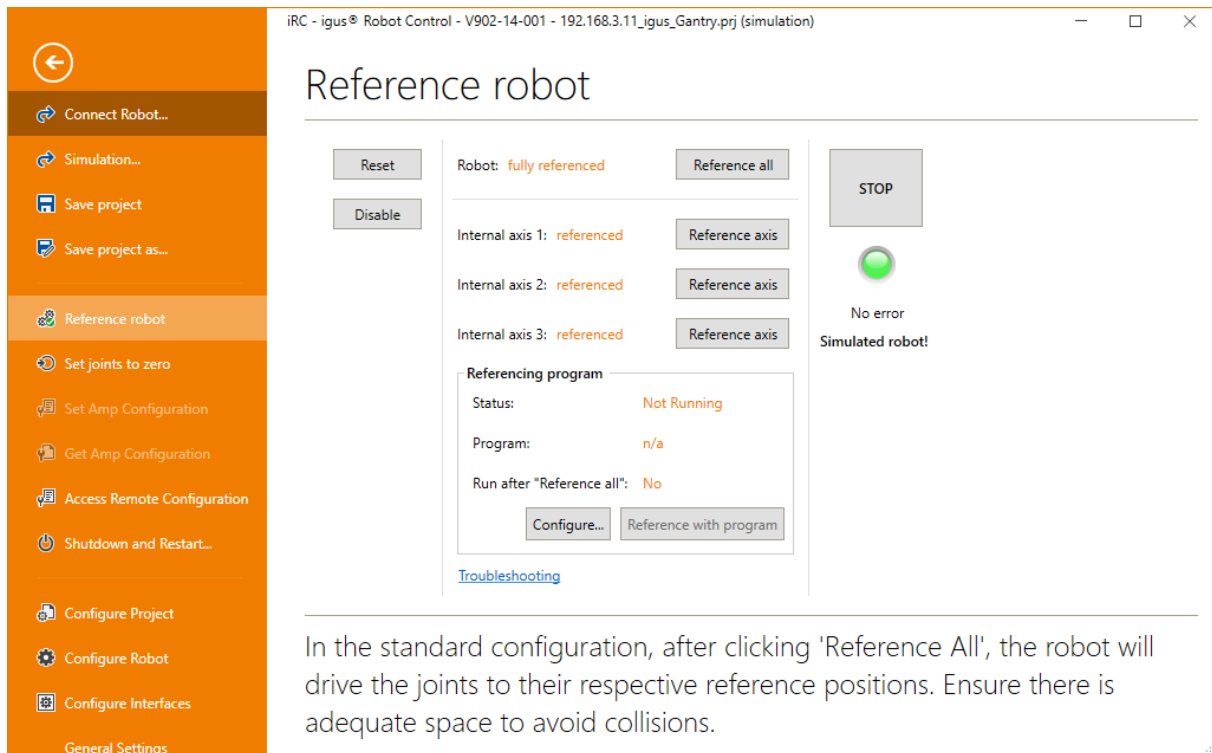

Figure 17: Referencing of the axes.
4. Click on the "Reference Axis" buttons to start referencing an axis, see Fig. 17. Multiple joints can perform referencing in parallel.